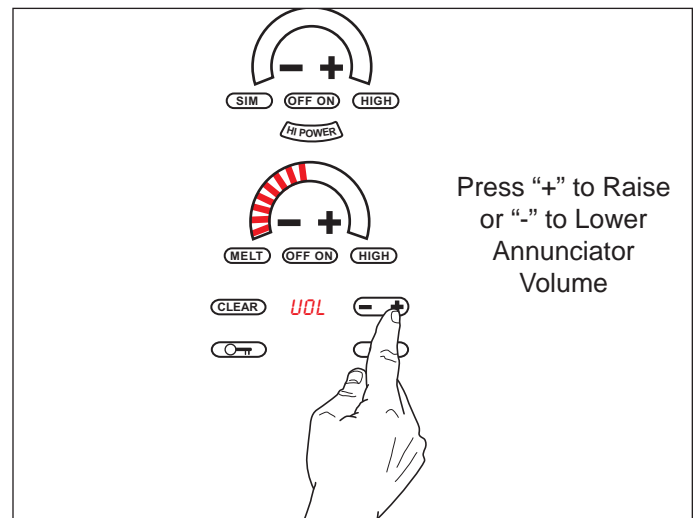

Figure 3-20 Annunciator Volume Being Raised
3. Both the Volume and Frequency are adjusted using the timer "-" and "+" keys. 1 touch equals 1 step up/down in volume or frequency. Power Level Indicator - LEDs will show the current status of the volume/frequency and change with the user's input. (1 LED = Low, 8 LEDs = Med. and 16 LEDs = High). (See Figure 3-20)